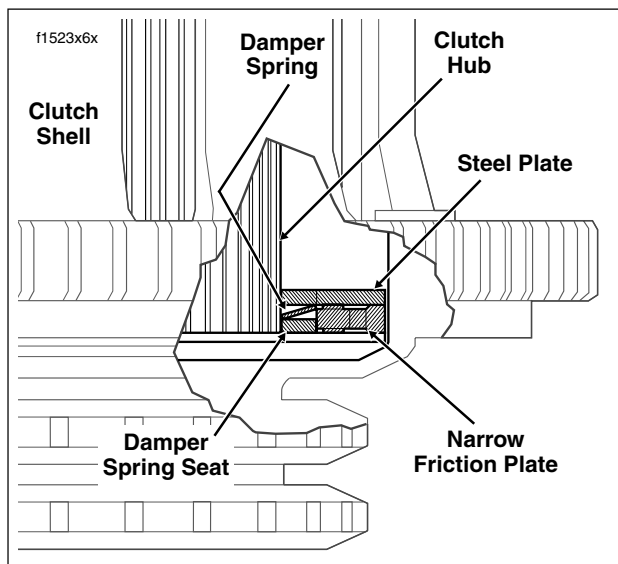

Figure 6-8. Clutch Pack Stack-Up (Cut-Away View)
4. Install damper spring on clutch hub with the concave side up (facing opposite damper spring seat). See Figure 6-8.
9. Install damper spring on clutch hub with the concave side up (facing opposite damper spring seat). See Figure 6-8.